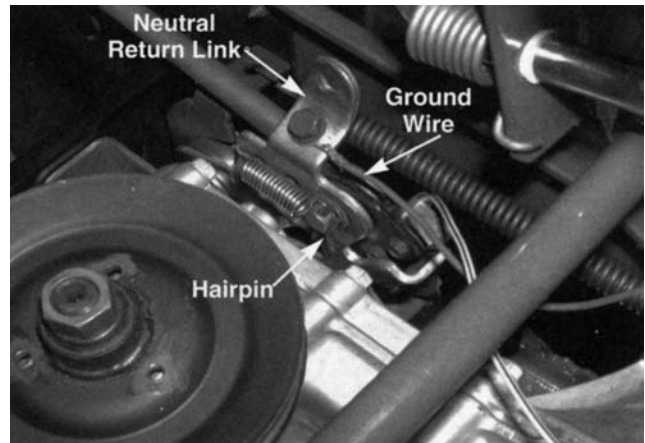

Figure 9-54
15. Remove the hairpin securing the hydrostatic foot control rod ferrule and reverse safety bracket to the neutral return plate. See Figure 9-54.